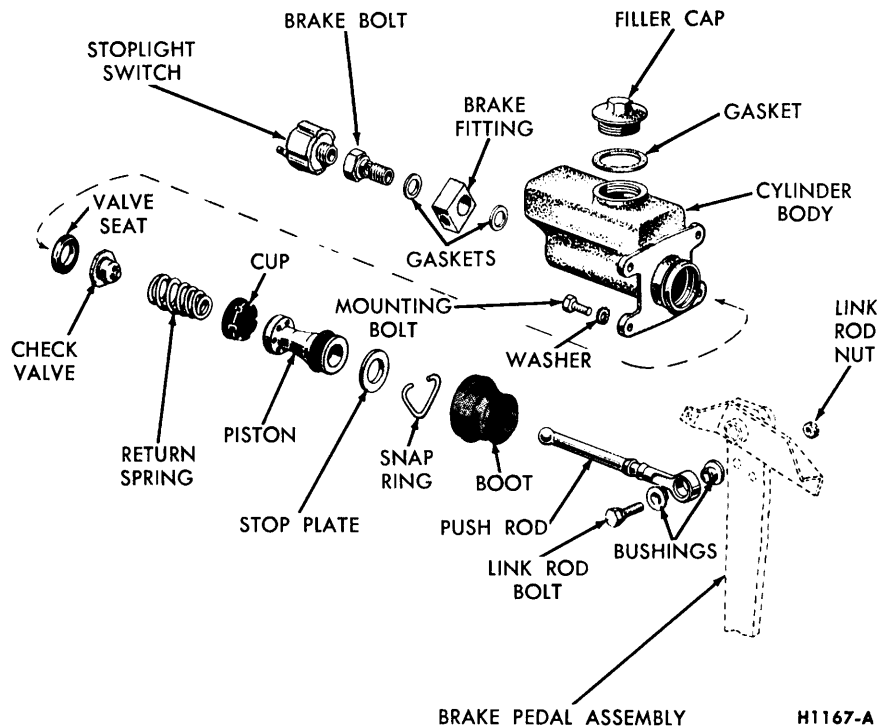

FIG. 18—B-, F-, N-, or T-Series Brake Master Cylinder
2. On a B-, F-, N-, or T-Series truck master cylinder, remove the stoplight switch if it is mounted on the master cylinder, brake bolt, fitting, and gaskets from the forward end of the cylinder (Figs. 18 and 19). Discard the gaskets. Remove the snap ring from the bore at the rear end of the cylinder, and remove the stop plate, piston, cup, spring, check valve, and seat from the cylinder bore. If necessary, blow through the forward bolt hole to remove the parts.
2. On a B-, F-, N-, or T-Series truck, install the brake fitting, bolt, and new gaskets (Figs. 18 and 19) on the forward end of the cylinder. If the stoplight switch mounts on the master cylinder, attach the switch to the brake bolt. Install the valve seat, valve, spring, cup, piston, and stop plate in the cylinder bore. Install the snap ring in the rear end of the bore.